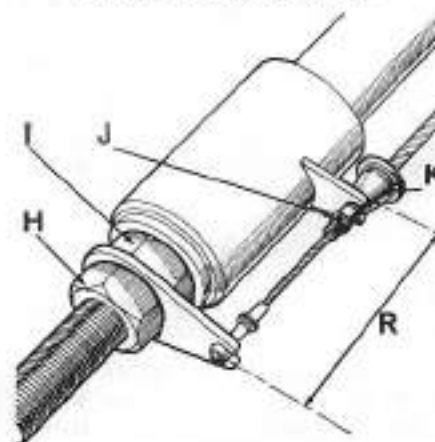

Fig. 145—View showing adjustment points of top link and flexible control cable. Follow adjustment procedure in text.
203. SINGLE ACTING TOP LINK AND FLEXIBLE CABLE ADJUSTMENT. To adjust early type top link that provides draft control when under compression only, disconnect flexible cable from link, refer to Fig. 145 and proceed as follows:
To adjust cable, first be sure bracket dimension (R—Fig. 145) is correct, then proceed as follows: Loosen locknut (J), hold hex portion of cable and turn adjuster (K) fully onto cable, then reconnect cable to top link. Start engine and attach heavy implement to lift linkage. Place control lever in
"raise" position and allow linkage to lift to fully raised position and the pump to unload. Stop engine and move control lever $\frac{1}{2}$ -inch forward (distance "M"—Fig. 146). Unscrew adjuster (K—Fig. 145) from end of outer cable until implement starts to creep downward, then screw adjuster back on cable one full turn and tighten locknut (J).